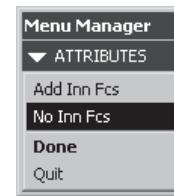

Figure 7-4 The **ATTRIBUTES** menu
3. If the sketched trajectory is a closed loop then after you exit the sketcher environment, the **ATTRIBUTES** menu is displayed, as shown in Figure 7-4. There are two options that are available: **Add Inn Fcs** (Add inner faces) and **No Inn Fcs** (No inner faces).